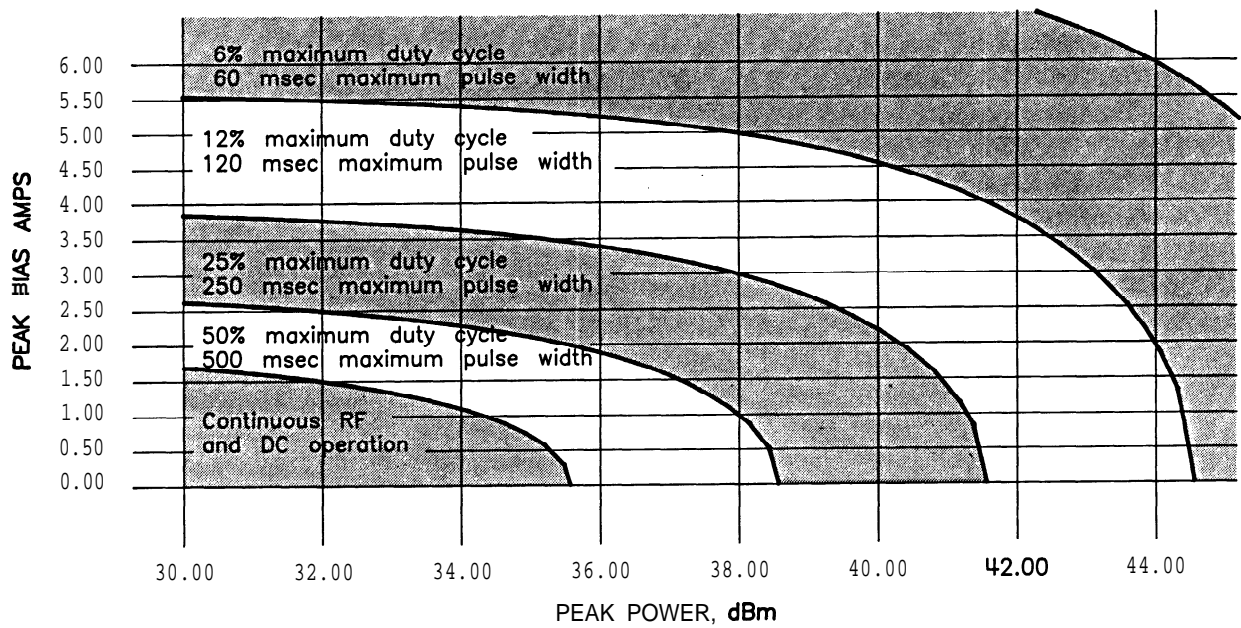

Figure 6. HP 11612A Option 001 Duty Cycle Curves
3. Set the current and repetition rate to the appropriate values (taken from the curve in Figure 6).